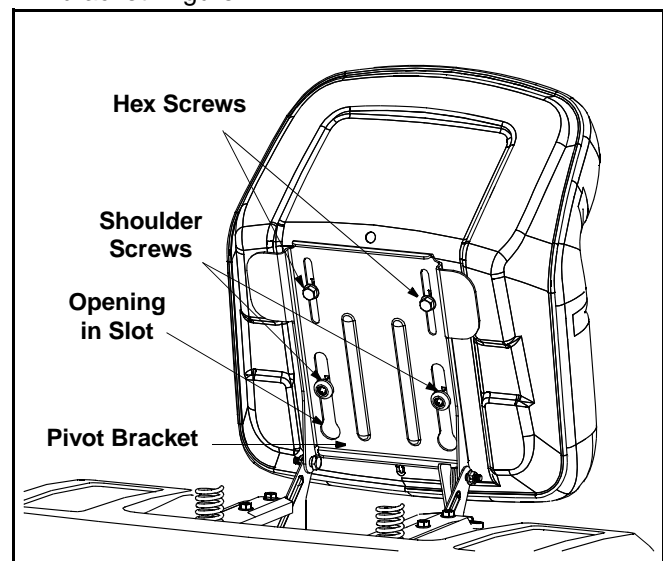

Figure 2
1. Position the shoulder screws (found on the base of the seat) inside the slot openings in the seat pivot bracket. Figure 2.
3. Select desired position for the seat, and secure with the two hex screws removed earlier. See Figure 2.